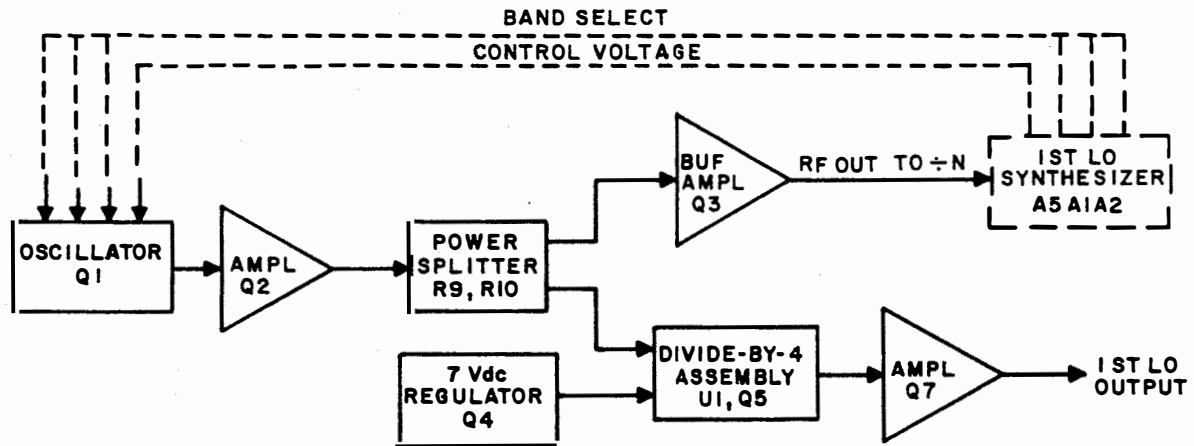

Figure 3-23. VCO Functional Block Diagram
**3-154. VOLTAGE CONTROLLED OSCILLATOR (A5A1 A1).** Figure 3-23 is the functional block diagram for the Voltage Controlled Oscillator. The VCO is an integral part of the 1st LO Synthesizer loop, whose inputs are a tuning voltage and a band select code, and whose output is the 1st LO frequency. The VCO operates at a frequency four times the desired 1st LO frequency. The band select code and the tuning voltage combine to tune the oscillator from 171.64 MHz to 291.60 MHz in 40 kHz steps. The oscillator output is amplified by Q2 and split between the buffer amplifier and the Divide-by-4 Assembly. Buffer amplifier Q3 provides the synthesizer with a sample of the oscillator signal. The sample is processed and, if required, a correction is made to the tuning voltage. The amplified oscillator frequency is divided by 4 (by U1) since the oscillator frequency is actually four times the desired 1st LO frequency. Amplifier Q7 supplies a high-level signal for the 1st Mixer.